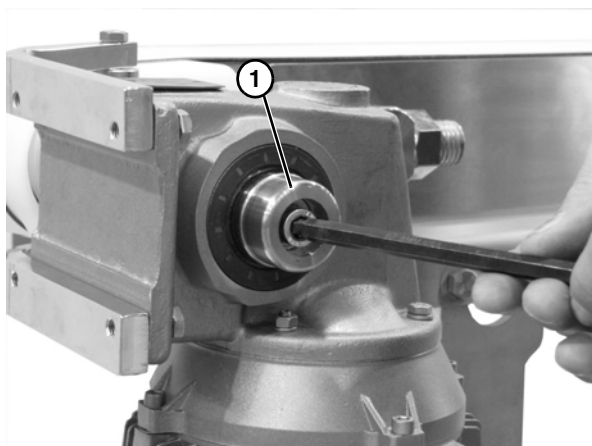

Figure 12
4. Attach the bore plug (**Figure 12, item 1**) and tighten the socket head screw. Snap cover onto bore plug (**Figure 12, item 1**)